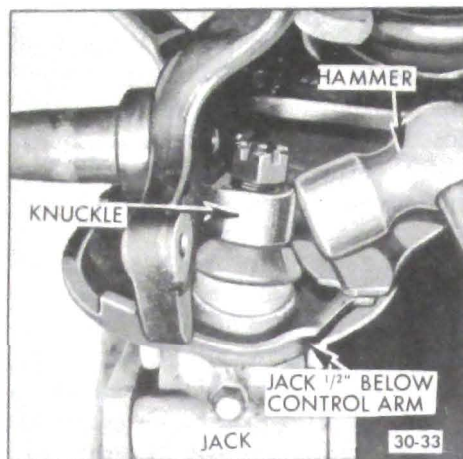

Figure 30-36 - Separating Steering Knuckle from Ball Joint
Force of chassis spring will be tending to disengage ball joint tapered stud from steering knuckle. Rap knuckle sharply in area of tapered stud to disengage stud from knuckle. See Figure 30-36.
8. Rap the steering knuckle in the area of the stud to separate the stud from the knuckle. See Figure 30-36.